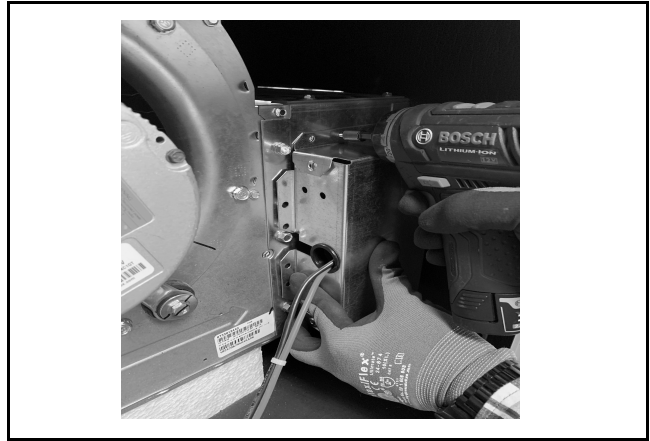

Fig. 14 Screw in the Heat Element Cover
3. Move the heat element cover into position. (See Fig. 14.)
4. Line the heat element cover with the holes on the heating collar and screw into place. (See Fig. 14.)